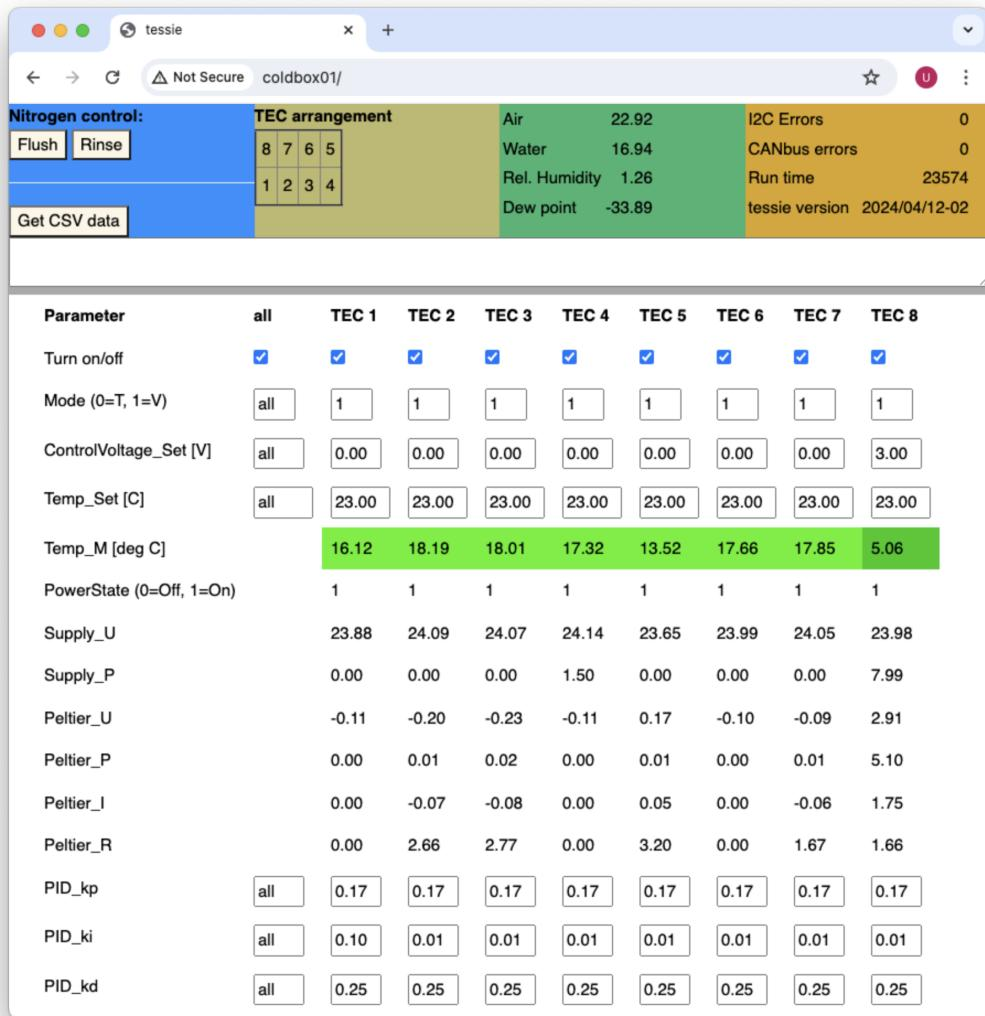

Figure 8: Web graphical interface to **tessie**. The top right brown-yellow box will turn red in case the connection to **tessieWeb** is interrupted.
The normal manual way to interact with `tessie` is through a webbrowser. Point your favorite browser to <http://coldbox03>, cf. Fig 8.
Figure 7: The GUI appearing on the Raspberry Pi touch screen. The interaction possibilities are limited to (1) controlling the N₂ flow with **Rinse** and **Flush**, (2) stop operations with "STOP ALL" which will turn off all TECs, turn on maximal N₂ flow by opening both the rinse and flush valves, and breaking the HV/LV interlocks, (3) resetting the interlocks, and (4) "Quit"-ing the program. The **Rinse** and **Flush** buttons will have a greenish background color when these valves are open and N₂ is flowing. For full control of **tessie** you should use the web interface shown in Fig. 8.